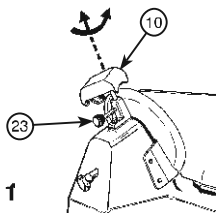

Fig. 1
- Check that the movable bulkhead (2) is closed (graduated knob (6) in position "0")
- Loosen the locking knob (23) of the sharpener group (10).
- Raise the sharpener group (10), turning it by 180° so that both wheels are in working position. See Fig. 1.
- Lower the sharpener group (10) until it locks.
- Secure the group by turning the locking knob (23).
- Switch on (5).
- Press button (26) and let the blade turn for about 1 minute. When the blade is still, check to see if any burr has formed on the edge.
- After having verified the presence of burr, switch on and gently press button (27) for about 3 seconds to remove the burr produced during sharpening.
- Set the movable bulkhead (2) at maximum distance from the blade (3) by turning the graduated knob (6).
- Place the sharpener group (10) on the movable bulkhead (2) as indicated in Fig. 1 blocking it by the knob (23).
- Switch on (5) to activate the automatic sharpening function. If necessary, turn the graduated knob (6) until the grinding stone turns together with the blade.
- Sharpen the blade automatically for about one minute then press the pressure button on the counterburr wheel (27) for two-three seconds, release the button and turn off the motor at the same time.
- After sharpening, remove the sharpener (10) from the movable bulkhead (2) and replace it in its original housing.